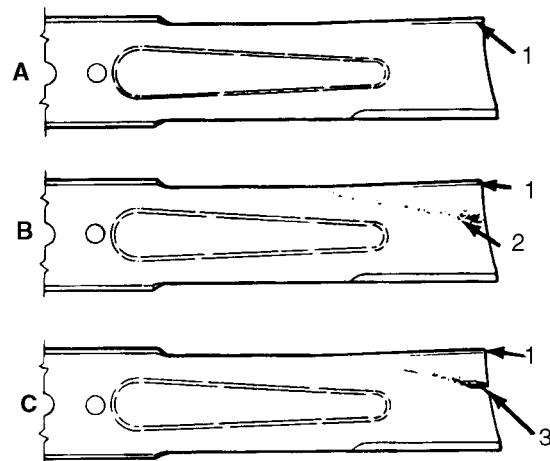

Figure 17
INSPECTING AND SHARPENING THE BLADE (Fig 17–18)
2. Examine the cutting ends of the blade carefully, especially where the flat and curved parts of the blade meet (Fig. 17 A). Since sand and abrasive material can wear away the metal that connects the flat and curved parts of the blade, check the blade before using the machine. If wear is noticed (Fig. 17 B), replace the blade: refer to *Removing The Cutter Blade*.